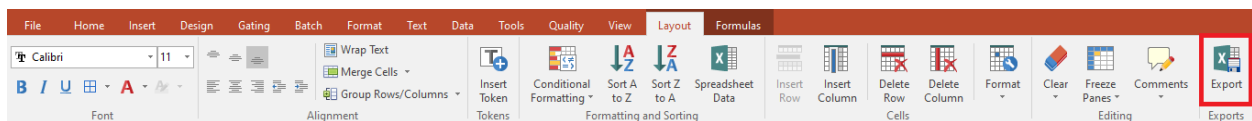

Figure 14 - Layout tab and export icon to export spreadsheet from Stain Index page
- 14.) Navigate to the “Stain Index” page. Select the spreadsheet below the layout page (reporting “Filename” in cell A1) Choose the **Layout** tab now available at the top of the workspace (*Figure 14*).